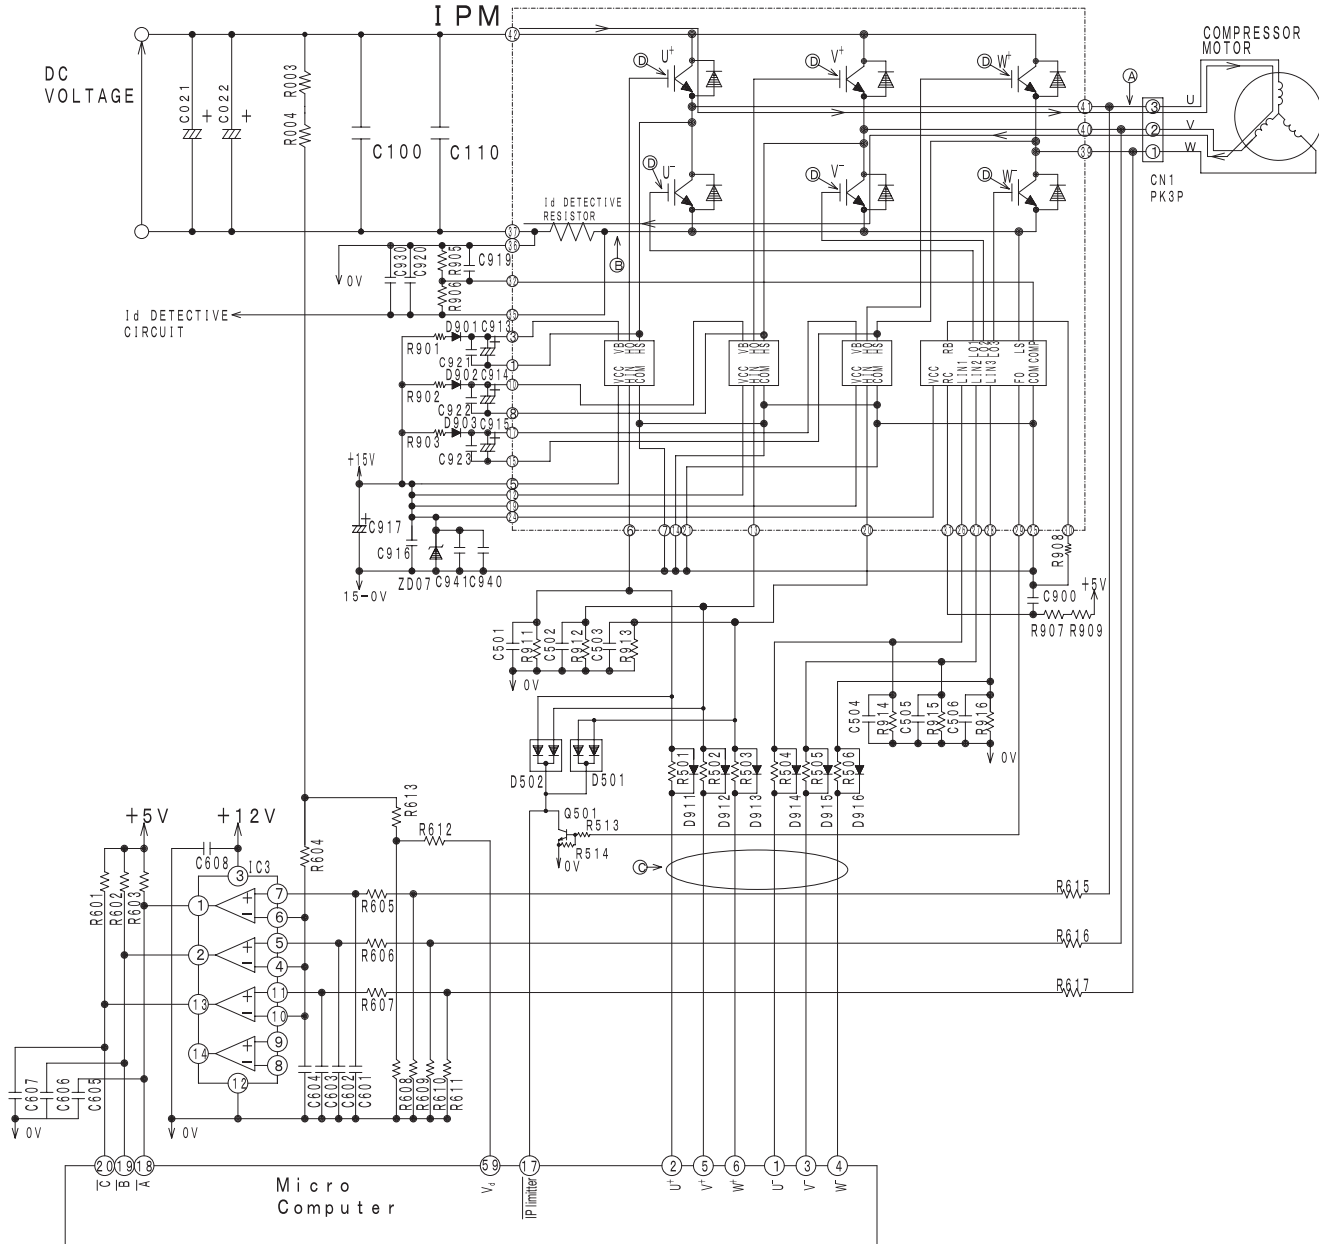
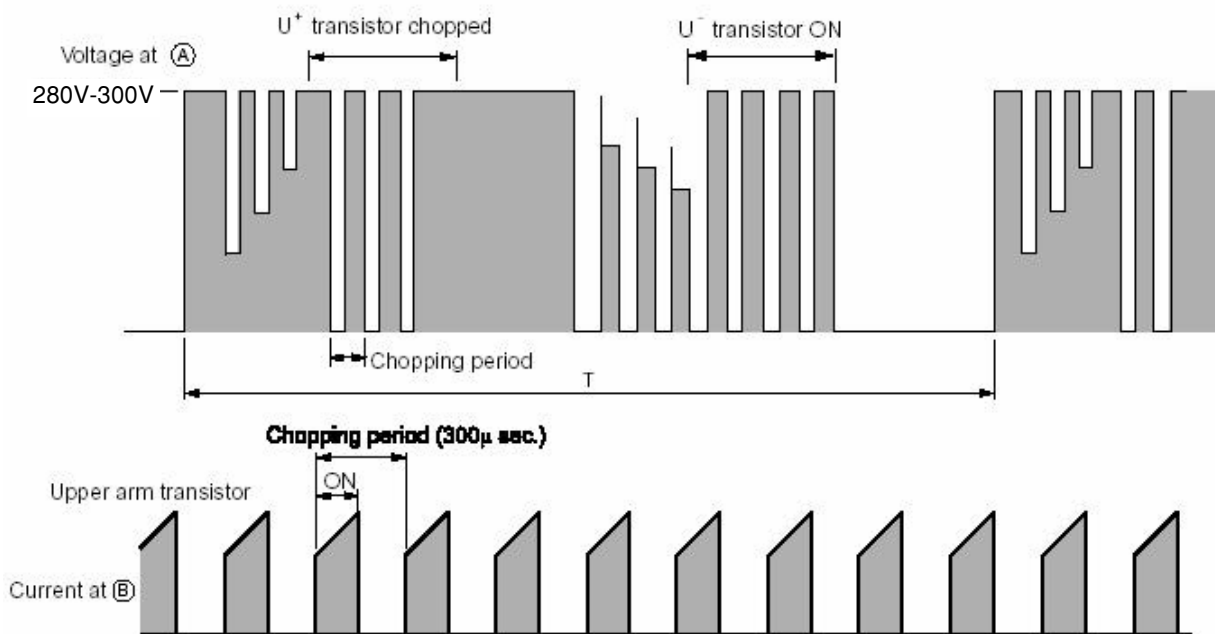

Fig. 4-1 Intelligent power module circuit (U+ is ON, V is ON)
Fig. 4-3 Voltage waveform at each point
- Fig.4-1 shows the intelligent power module and its peripheral circuit. The three transistors on the positive e side are called the upper arm, and the three transistors on the negative d side, the lower arm.
At point ⑤: U+ is ON, V is ON (circuit in Fig. 4-1)
Fig. 4-3 shows voltage waveform at each point shown in Figs. 4-1 and 4-4. First half of upper arm is chopper, second half is ON, and first half of lower arm is chopper, second half is ON.
- (1) When U+ transistor is ON: U+ transistor → U coil → V coil → V- transistor → DC current detection resistor → Point ② (Fig. 4-1)
Since current flows at point (B) only when U+ transistor is ON, the current waveform at point (B) becomes intermittent waveform as shown in Fig. 4-3. Since current at point (B) is approximately proportional to the input current of the air conditioner, input current is controlled by using DC current (Id) detection resistor.